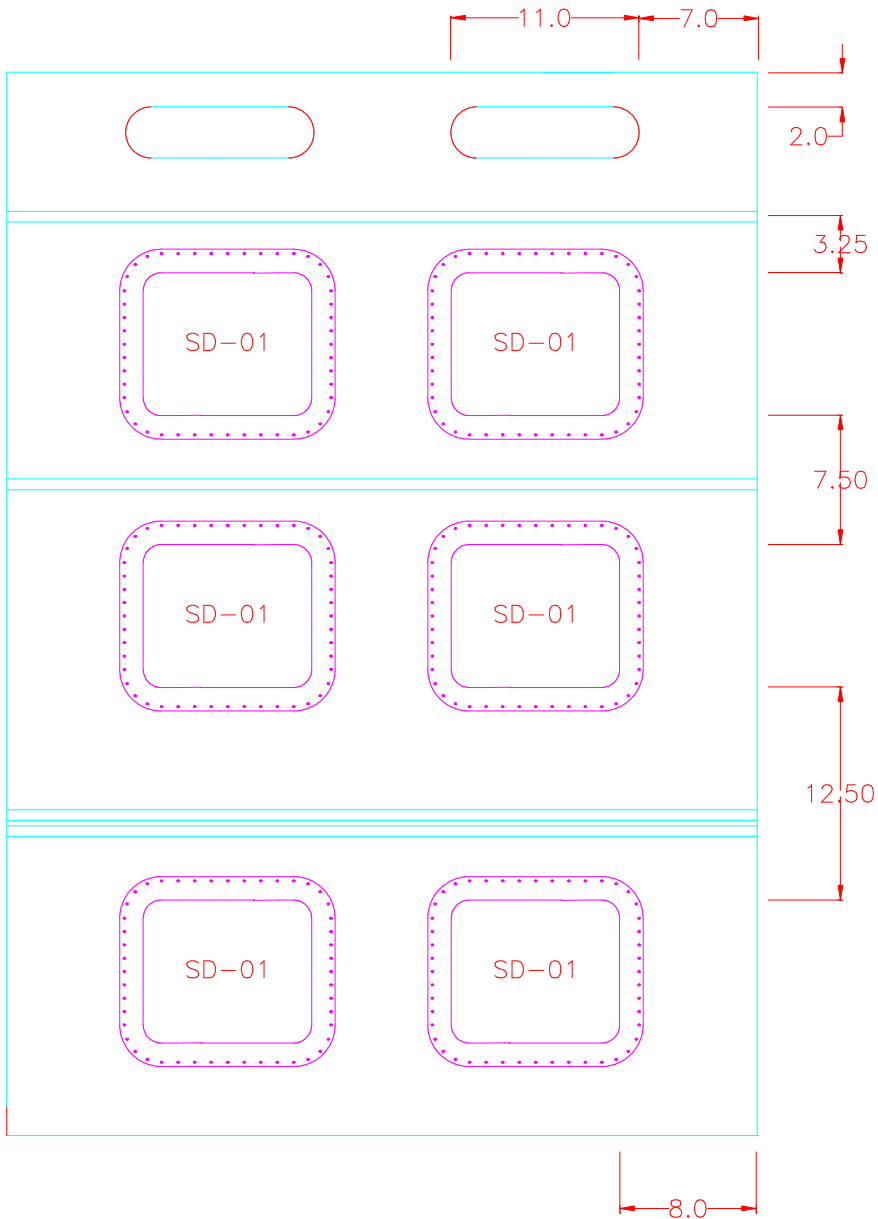

Figure 20.1.1
- 1) Using a fine felt marker mark the outline of the forward skylight. Figure 20.1.1.
- 1) Use the measurements figure 20.1.1 to locate SD-01 doublers.